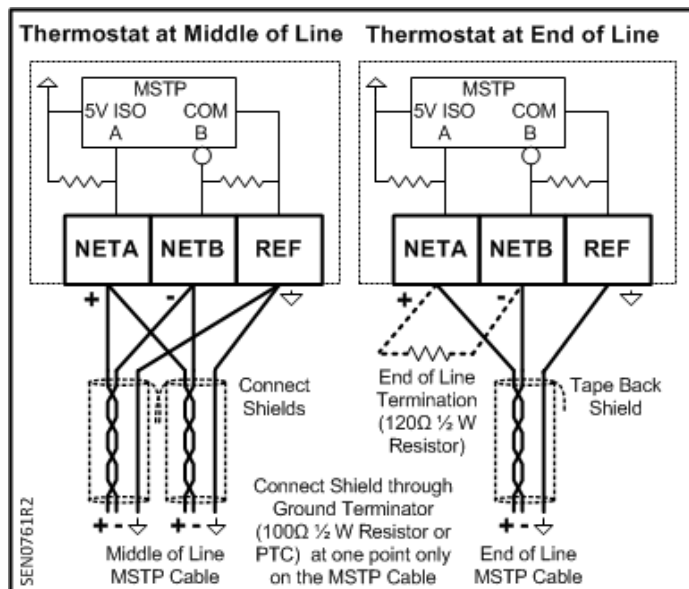

Figure 8. Wiring Schematic, MS/TP NET Port.
- b. See Figure 8 for wiring thermostat at the middle of line (two MS/TP cables) or at the end of line (one MS/TP cable).